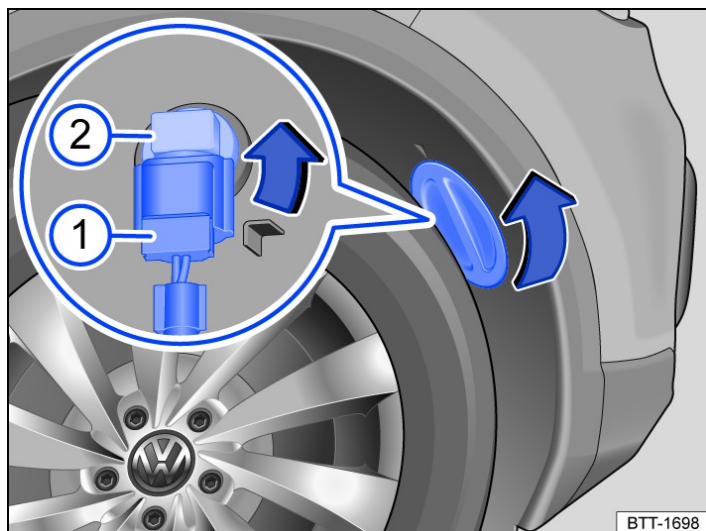

Fig. 1 In the front bumper on the right: changing a bulb in the headlight.
3. Turn the cover in the wheel housing liner in the direction of the arrow and pull it out → Fig. 1.